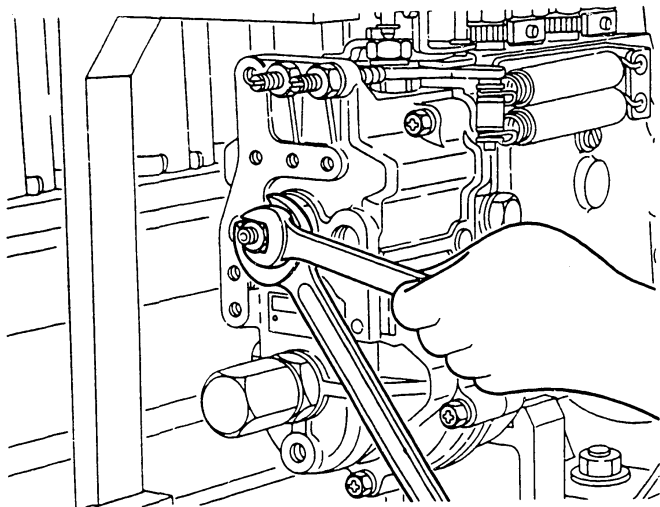

Fig. 144 Adjustment of the governor springs
- 3) Adjust the nut (145) with the pump speed fixed at  $N_c$  rpm so that the control rack will be at position  $R_d$  mm, and then lock it to the governor shaft (140) with the nut (146). (Figs. 144 and 145)